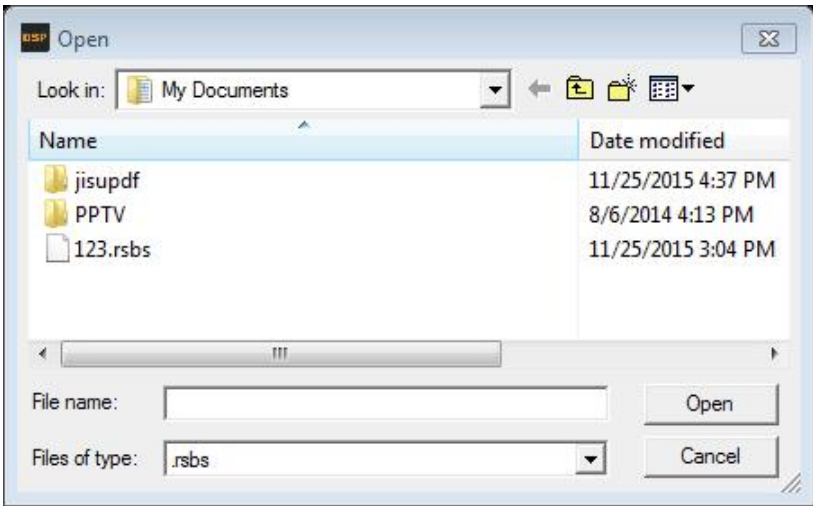

figure 3.4.12
Step2: Click "Load scene file on the computer," after entry window will pop open file dialog box (Figure 3.4.12).